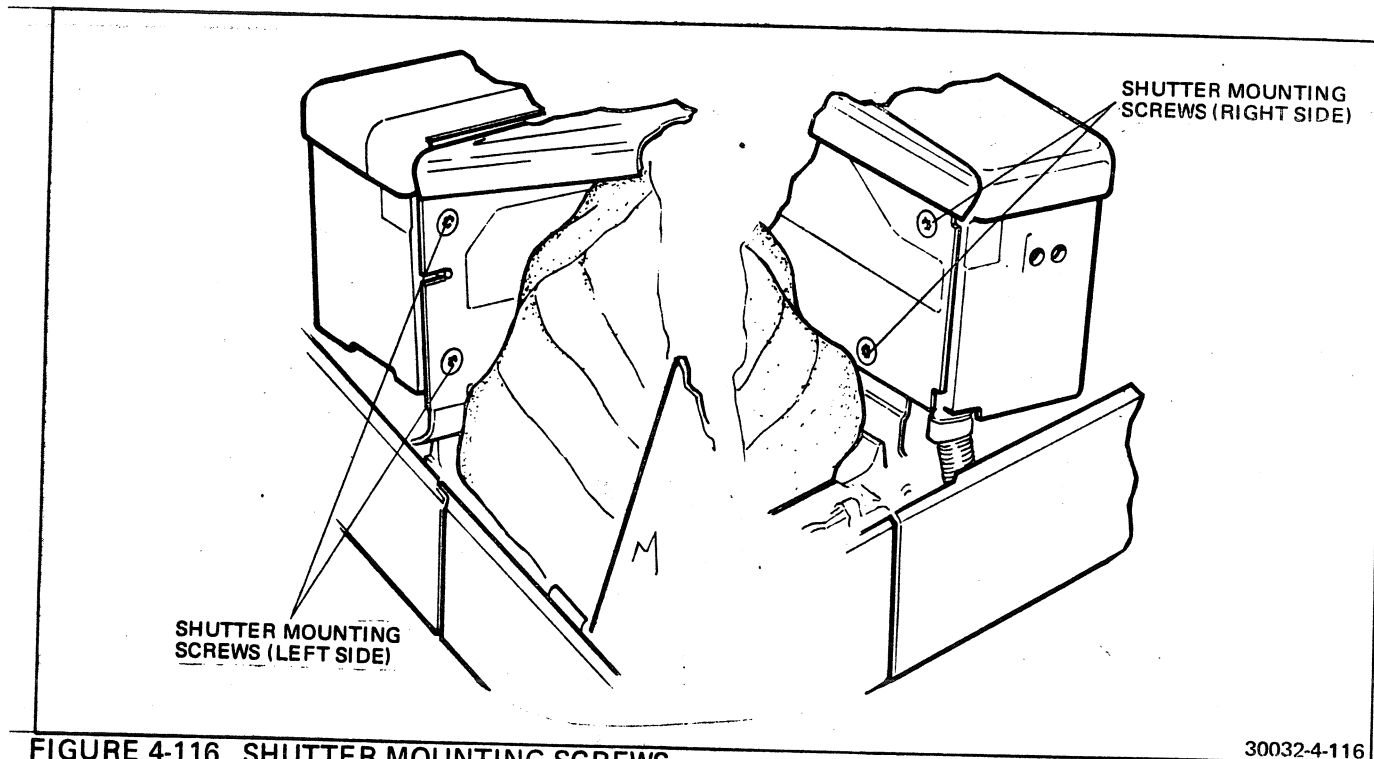

FIGURE 4-116 SHUTTER MOUNTING SCREWS
2. At the back side of the shutter mounting hinge bracket, remove the four screws which secure the shutter to the bracket. See Figure 4-116. Lift off the shutter.